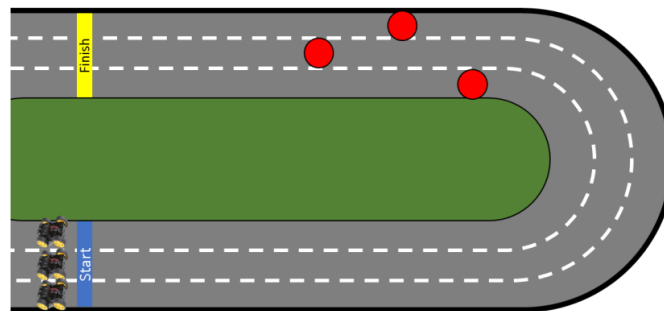

Figure 5 - Team Racing Race Track (Demonstration only, the actual track may differ)
- The cars should autonomously stop at the finish line (marked with a 4cm yellow line on the track as shown in Figure 5).